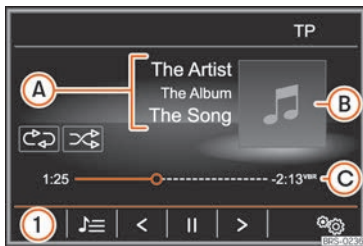

Fig. 204 MEDIA main menu.
- Press the infotainment button **MEDIA** to open the *Radio* main menu»» **Fig. 204**.